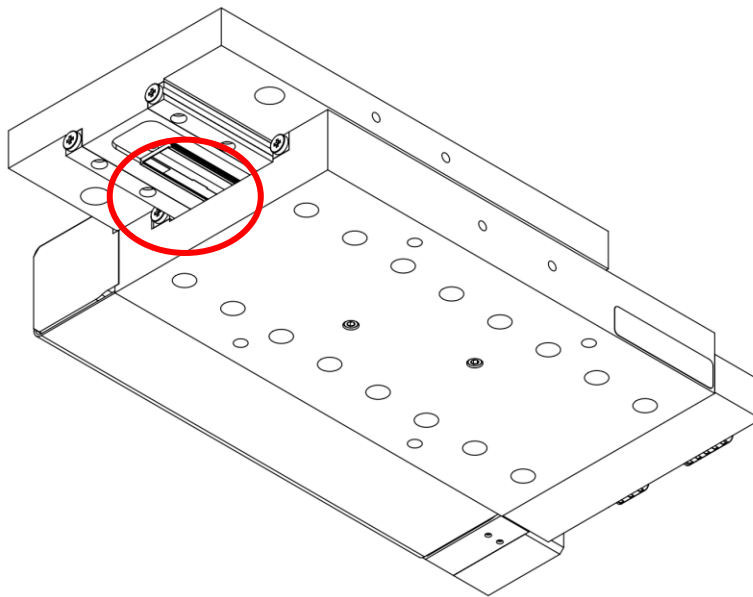

Figure 13. Exposed Scale Location
**CAUTION:** With the shipping lock now removed, the compound plate and loading plate can now move freely if unobstructed by a power-off brake. Be careful to not touch the scale and/or limit tapes on the bottom of these plates, as pictured in Figure 13. Failure to abide by this warning may cause damage to the stage.